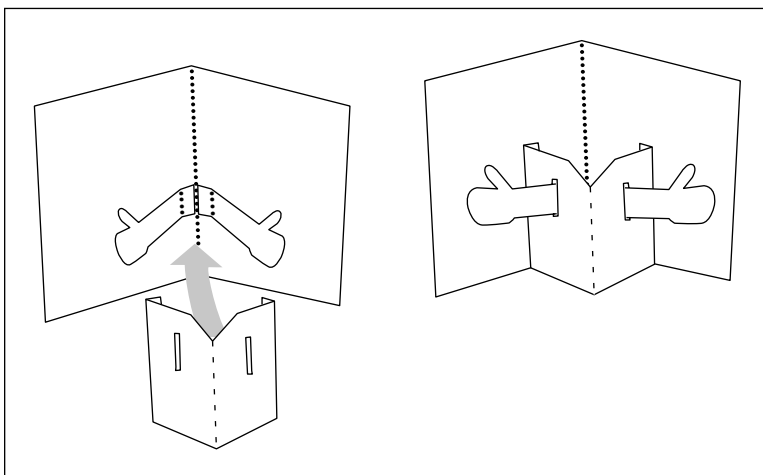

Figure 6-25:
5. Thread the arms through the holes in the body, and glue the body to the inside of the greeting card (check out Figure 6-25).